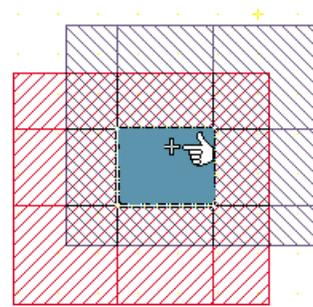

Figure 2. Select pieces from the whole.
- 1.4. Select the pieces that cover the intended hole, Figure2, and delete them.